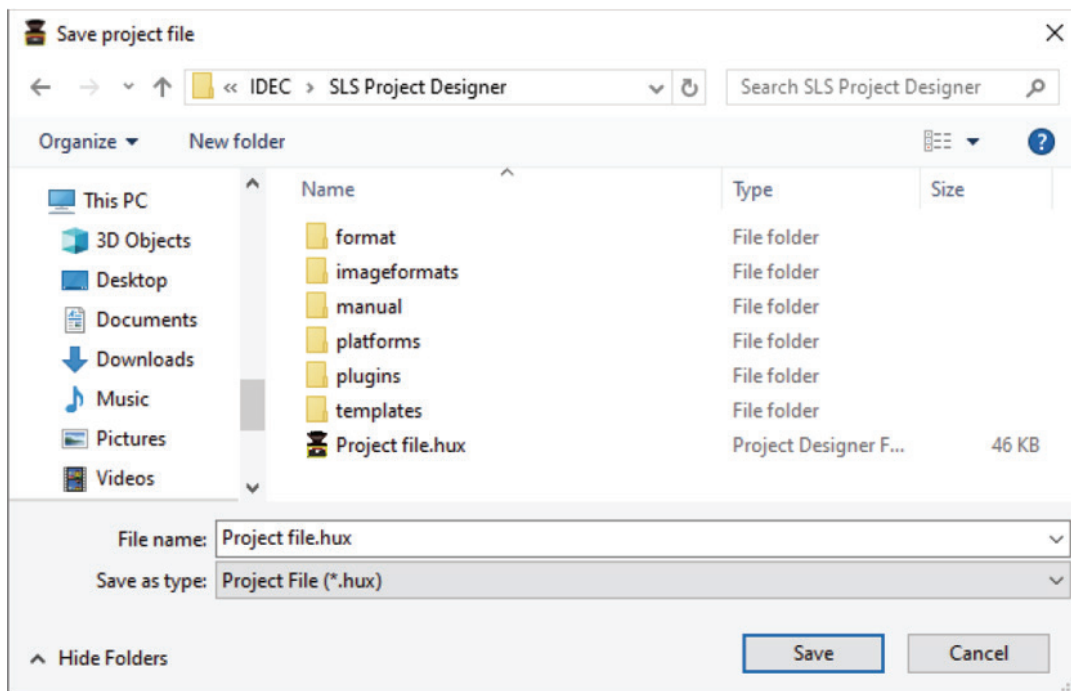

Figure 7-54 Save project file
- c) Enter a file name and click Save button. Change the location of the file if necessary. (Figure 7-54)